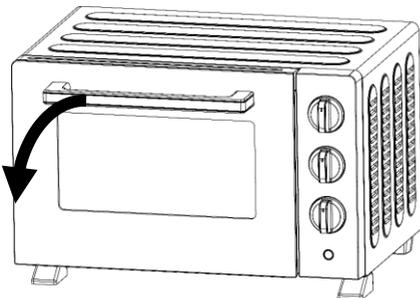

Fig. 10
- How to open and close the door – see figs. 10 -12
8. Open the oven door (Fig. 10 & 11) and place the food into the oven using the grill rack and / or baking tray.